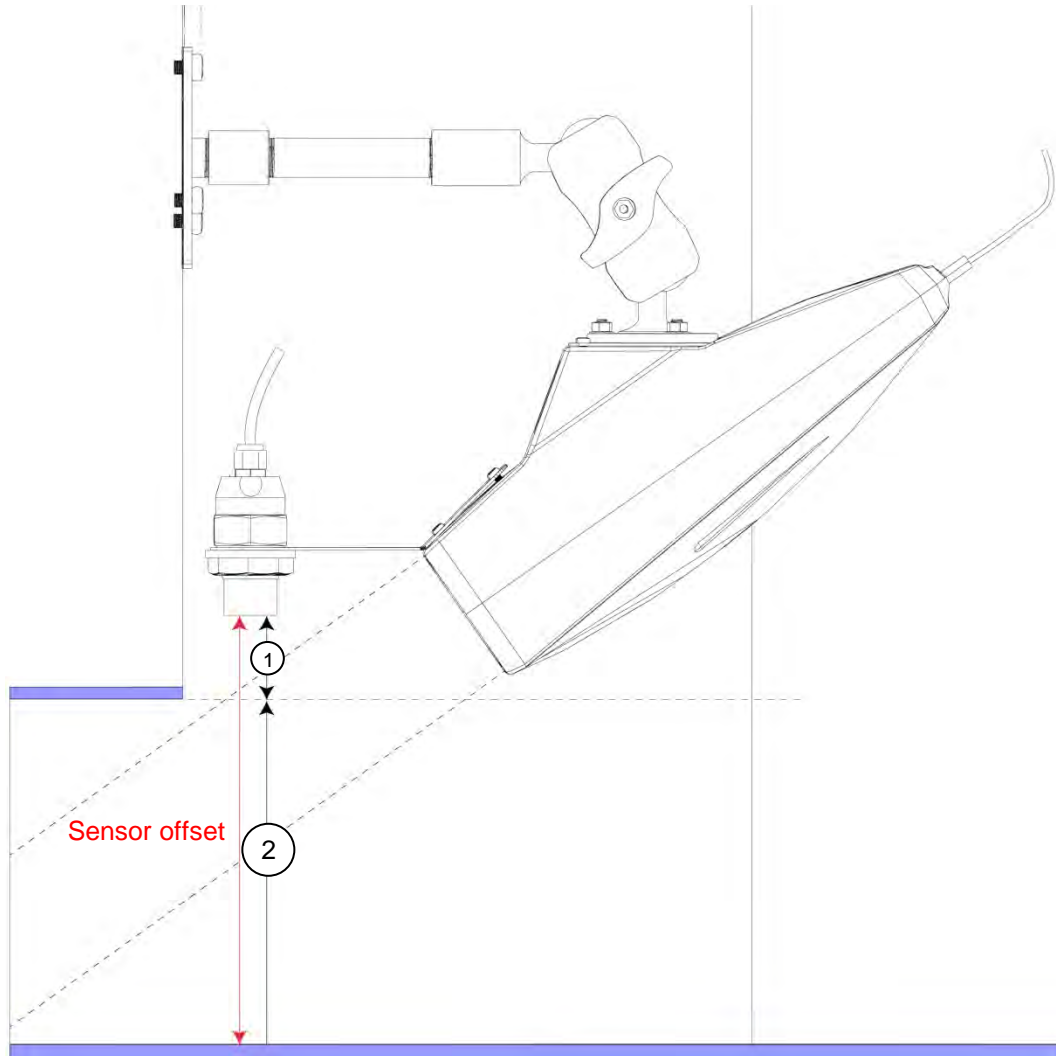

Figure 13: Sensor offset
1. Put the rod in the bottom of the pipe or channel and align it vertically with the level sensor (Figure 13).
Note: *If it is not practical to measure to the bottom of the pipe, measure the distance from the crown of the pipe to the top of the frame (Figure 13). Add this distance to the pipe diameter to get the sensor offset (sensor offset = pipe diameter + distance from crown of the pipe to top of frame).*